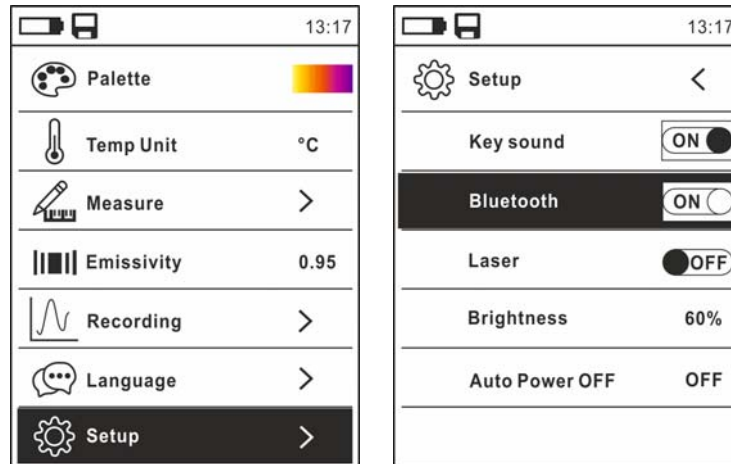

Fig. 43: Activation of Bluetooth connection
1. Press key , select menu “Setup” and activate the Bluetooth connection on the instrument (see § 4.3.8) as shown in Fig. 43